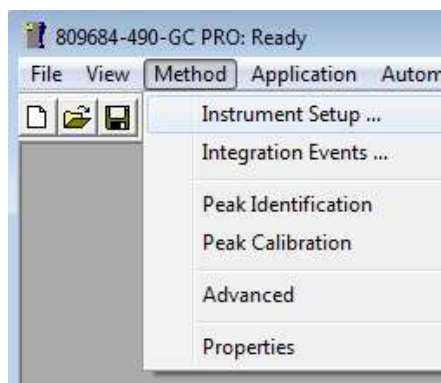

Figure 34: Method Instrument Setup.
- For creating a new method, select: Method\Instrument Setup, see Figure 34.